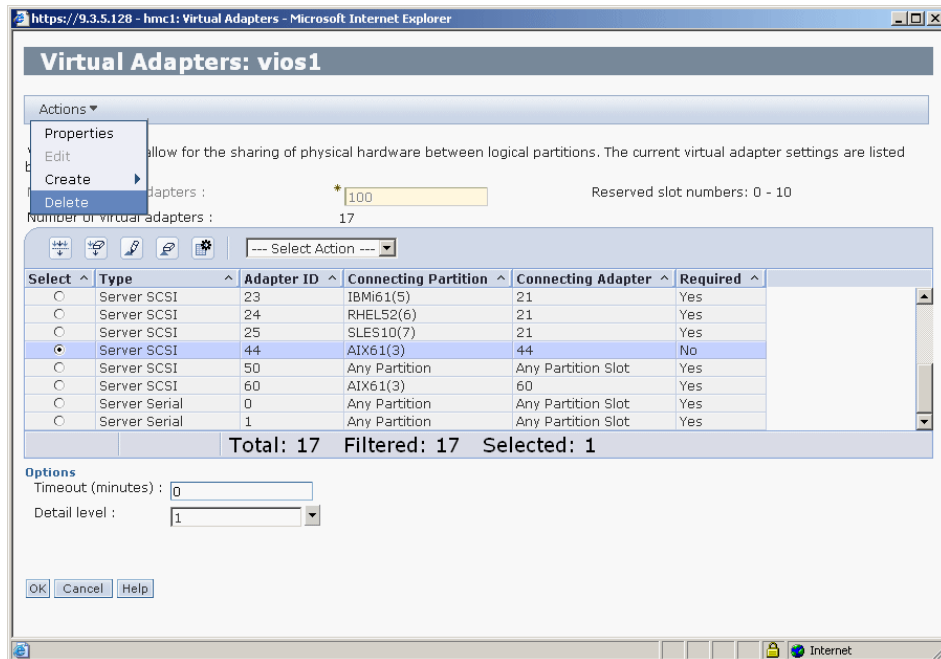

Figure 6-28 Delete virtual adapter
3. Select the adapter you want to delete and choose **Actions** → **Delete**. (Figure 6-28).